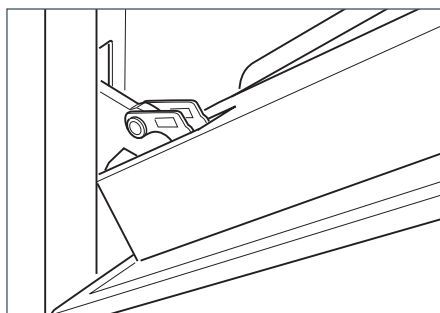

Fig.48d
- 4 Gently close the door until left and right hinge levers "A" are hooked to part "B" of the door (Fig. 48d).